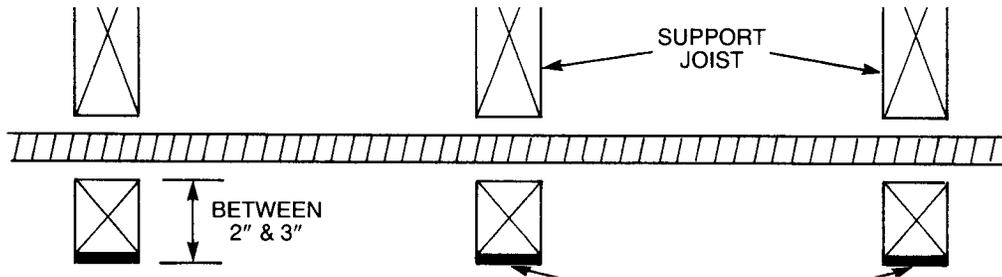

Figure: 4-8
b. At support points and points of penetration 2 to 3 inches from any edge of stud, joist plate, etc. shielding is required throughout area of support. Use a quarter striker plate in these locations. (Figure: 4-8).